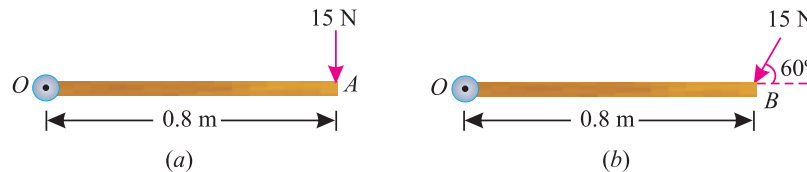

Fig. 3.3.
**Example 3.1.** A force of 15 N is applied perpendicular to the edge of a door 0.8 m wide as shown in Fig. 3.3 (a). Find the moment of the force about the hinge.
If this force is applied at an angle of 60° to the edge of the same door, as shown in Fig. 3.3 (b), find the moment of this force.